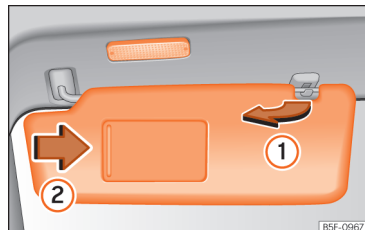

Fig. 91 Sun visor
- The sun visor can be pulled out of its mounting and turned towards the door »» Fig. 91 ①.